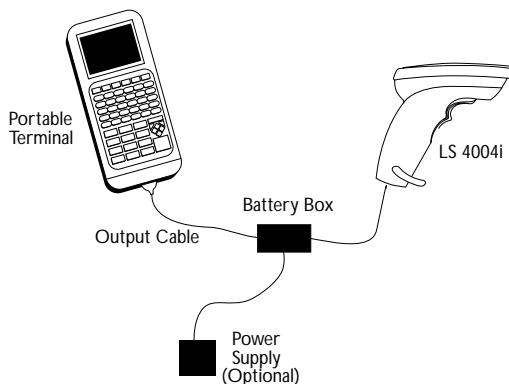

Figure 2-6. RS-232C Battery Operation
3. An output cable from the battery box connects the LS 4004i to the RS-232C input device. Connect one end of this cable to the battery box and the other end to the appropriate port on the host device (Figure 2-6).